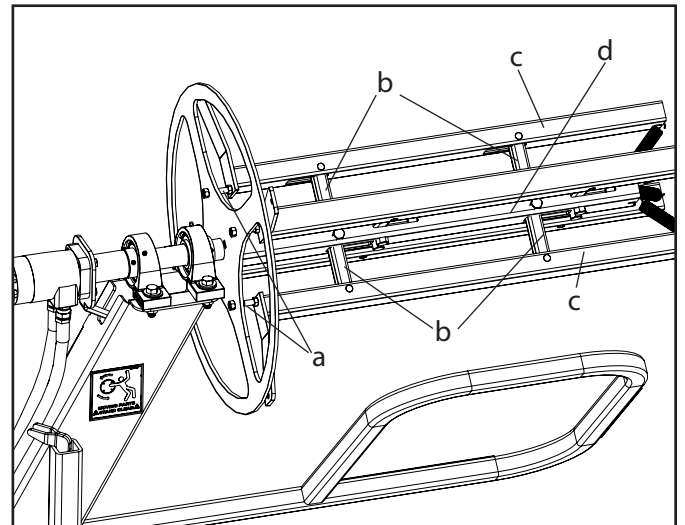

Figure 12: Adjusting the reel stop bolts
1. Over time, as the plastic wrapping reels wear, it may be necessary to adjust the stop bolts (a) on the reel bars (Figure 12).
2. When the stop bolts are adjusted properly the links (b) on the outer reel tubes should be tilted forward slightly and it should only take minimal force to release the reel (Figure 12).
4. Adjust the nuts on the link stop bolts (a) to change the tilt of the links (b) (Figure 12).
5. The ends of the collapsible tubes (c) should extend 3-1/8" beyond the end of the center tube (d) (Figure 12).